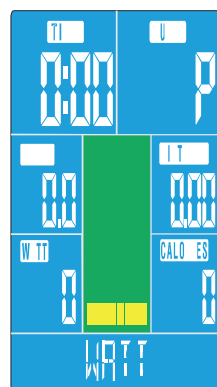
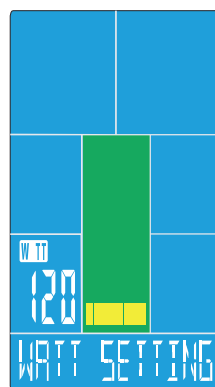
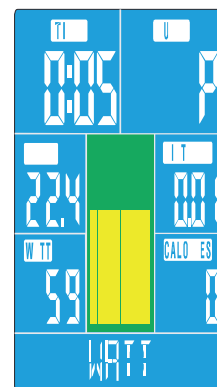

FIGURE 19
FIGURE 20
FIGURE 21
8. If choose WATT function (Figure 19), press MODE confirm to next step. And set WATT (10~350±5), press UP/DOWN to set (default value 120, Figure 20) and press MODE to confirm. And go to next step to set TIME (1~99 minutes) or press START to execute function; After START, according to the WATT value and practice state input by the user, the LEVEL value is automatically adjusted (Figure 21), and the WATT value can be adjusted by pressing the UP or DOWN button.